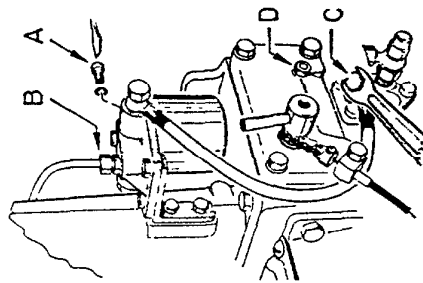

Fig. 11
Bleeding the Fuel System (fig 11):
1. Fuel filter and fuel tank tube are bled by loosening the fuel leak-off pipe nut on filter (B) or the small bleeder screw (A). Keep open until fuel flows freely without bubbles. Tighten securely.
2. To bleed the fuel suction hose between filter and injection pump loosen the banjo nipple (C) screw on fuel pump 3 turns (see fig. 11). Shake the hose and keep screw open until fuel flows freely. Tighten the banjo nipple screw. The suction hose end should point upwards from the banjo nipple to avoid air lock (fig. 11):
Adjusting Idling Speed (fig. 11, pos. D):
The idling speed is only controlled by an idling spring (Gr. 43—2, pos. 15) inside the governor cover (fig 11).